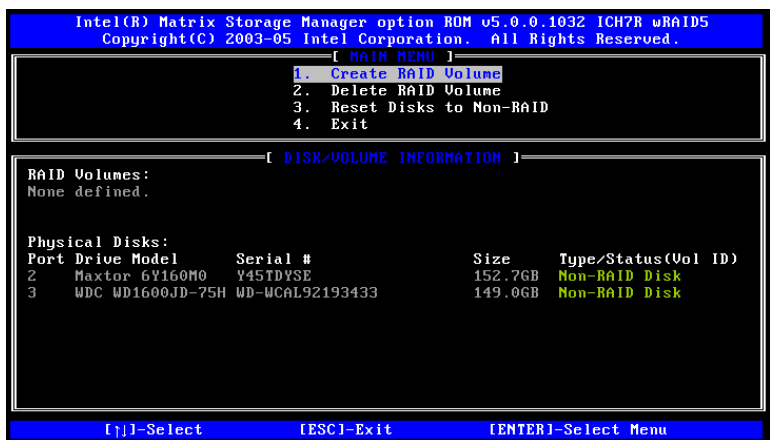

Figure F-1: Matrix Storage Manager Main Menu
**Step 1: Select “Create RAID Volume”.** Use the arrow keys to highlight **Create RAID Volume** and press **ENTER**. See **Figure F-1**.